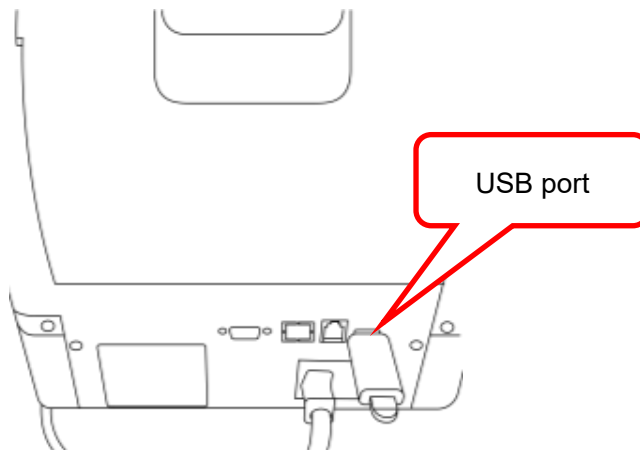

Figure 111
1) Please plug the U-disk into the machine before collection, as shown in Figure 111.